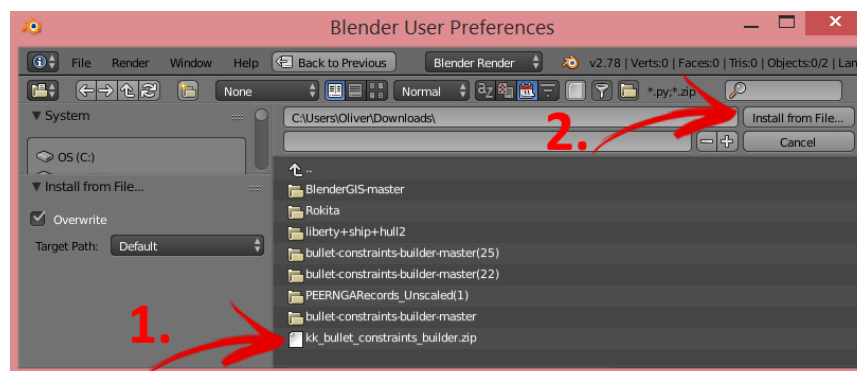

Figure 7
4. Browse to the file “kk bullet constraints builder.zip” (1.) that you just downloaded mark it and then click “Install from File” (2.), Figure 7.